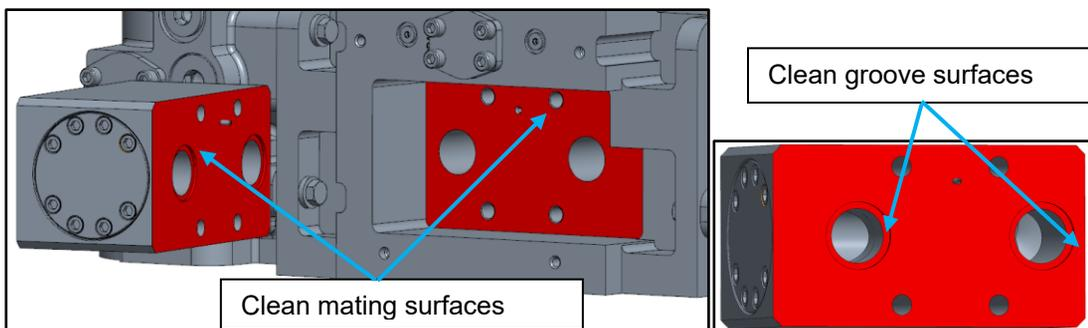

Figure 4-7. Shuttle Valve and VS-DX Mating Surfaces Cleaning
2. Clean both mating surfaces of VS-DX manifold and shuttle valve manifold using Isopropyl alcohol (Figure 4-7).